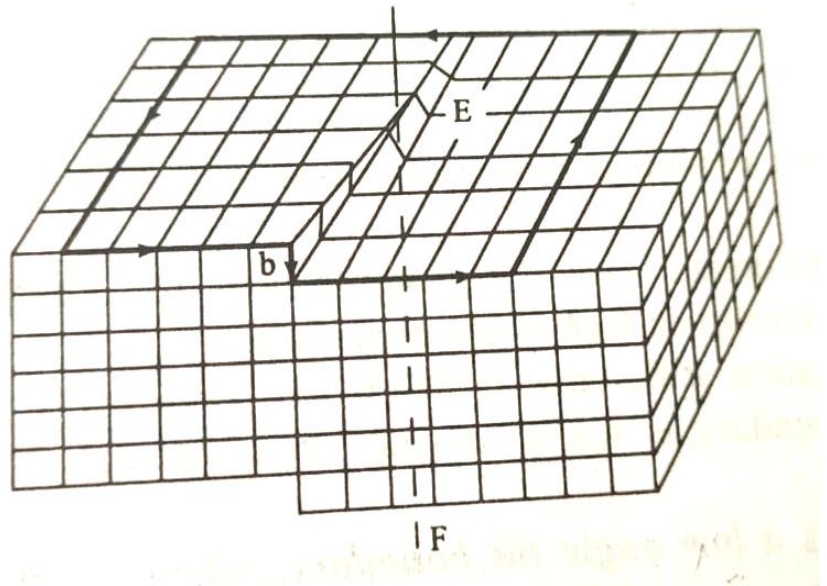

Fig.5
□ Fig.5 shows a crystal with screw dislocation
□ Burger circuit is drawn as shown in the fig5.